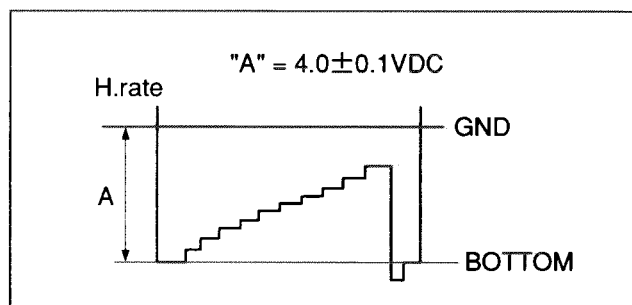

Fig. 3-4-5 BLACK LEVEL
- 2) Adjust VR7205 so that DC level of "A" (between the waveform GND and Bottom, see Fig. 3-4-5) of a waveform becomes 4.0 V DC.